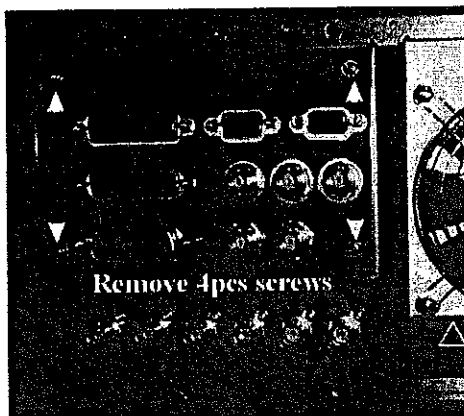

Figure 5-15 Location of Screws
2. Remove 4pcs screws to remove rear panel block., referring Figure 5-15.